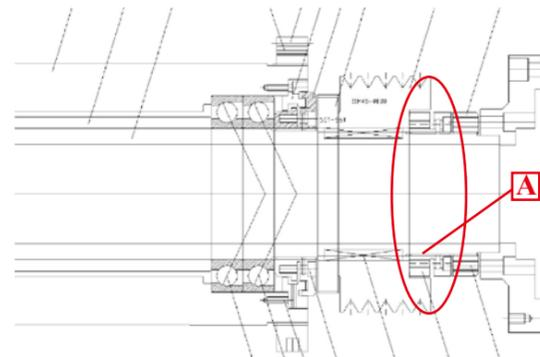

Fig. 1
- a. The transmission belts are too tight and pull the pulley causing a gap between pulley and the spindle nut shown as A on Fig.1.